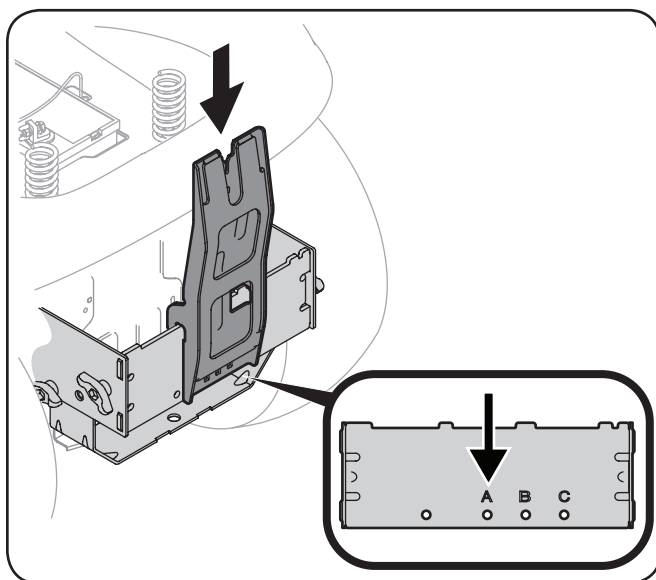

Figure 4-6
3. Install the vertical support bracket onto the mounting assembly of the tractor by hooking it over the hitch plate as seen in Figure 4-6.
4. Align the vertical support bracket with the mounting hole that best suits the deck size of your machine. See Figure 4-6.